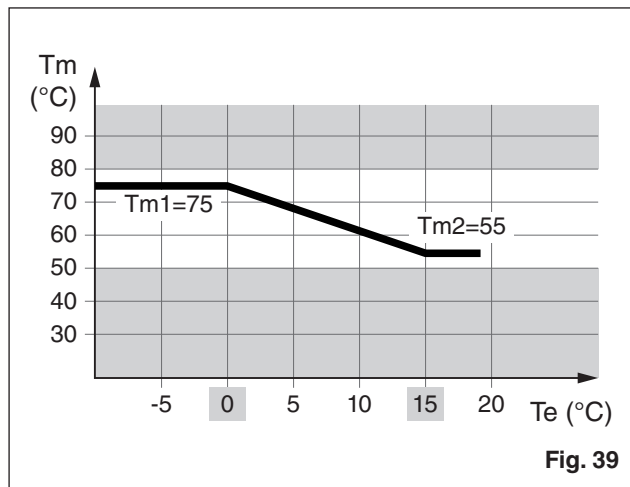

Fig. 39
Fig. 39 contains an example of the curve that determines the relationship between the delivery temperature to the system (TM) and the external temperature (TE).